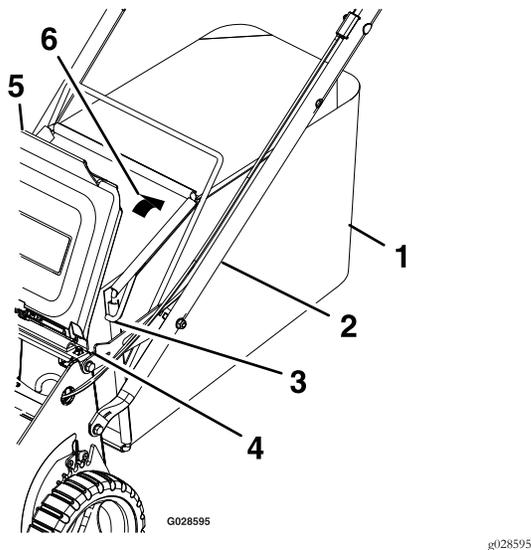

Figure 15
3. Grasp the handle on the bag and set the rear of the bag frame onto the door hinge bracket (Figure 15).